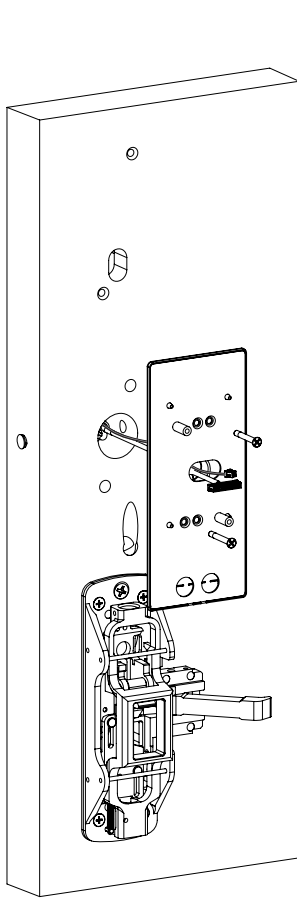
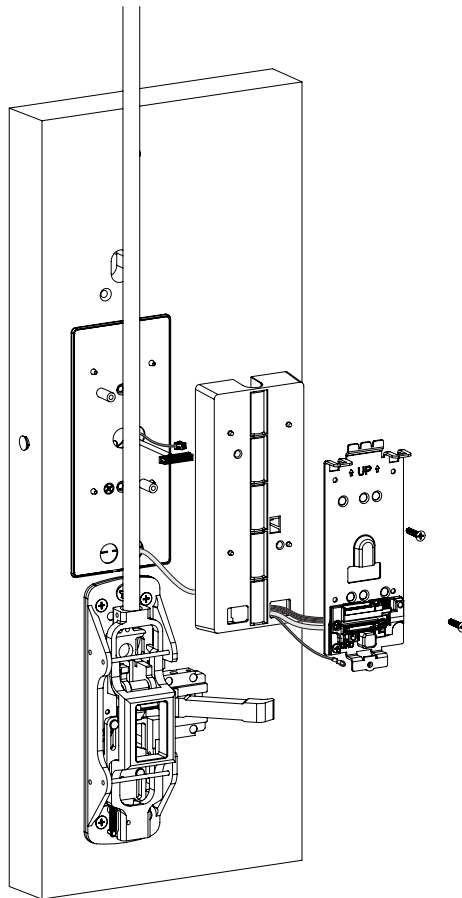

Figure 11-2C
Figure 11-2D
1. Feed the cables/connectors through the inside spacer mounting plate assembly (and gasket if required\*) (Figure 11-2C).
2. Secure spacer mounting plate assembly while ensuring proper alignment of outside reader and tighten two (2) through-bolts on inside of door to secure reader.
5. Feed cables/connectors through the plastic SVR spacer and controller inside mounting plate. (Figure 11-2D)